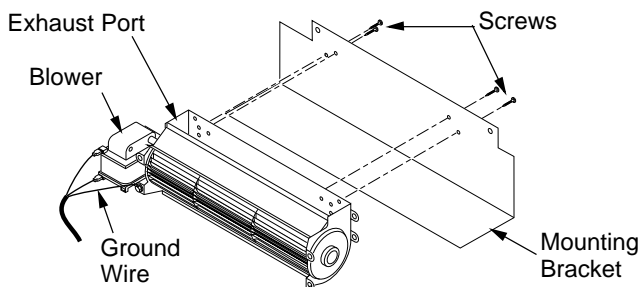

Figure 16 - Attaching Blower to Mounting Bracket
- Attach green ground wire from power cord to blower housing using screw provided (see Figure 16). Tighten screws securely.
- Place the blower on the mounting bracket with the exhaust port directed upward. Align the holes in blower frame with holes in bracket (see Figure 16). Using 4 screws provided mount blower and tighten each screw.